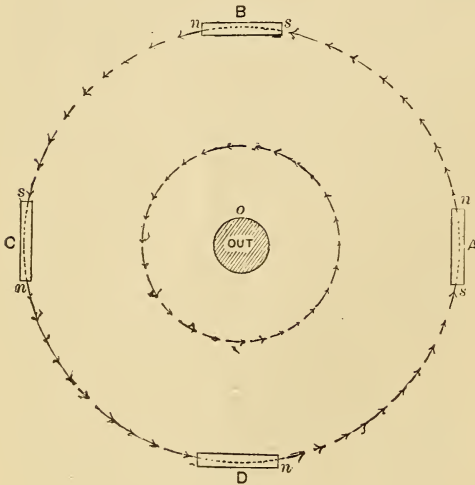

FIG. 38.
If the conductor through which an electric discharge is passing instead of being held in a horizontal position above and parallel to a magnetic needle that has come to rest under the influence of the earth's magnetism, as already shown in the first figure of this article, is supported in a vertical position, a magnetic needle when brought into its neighborhood will be deflected in different directions according to the side of the conductor near which it is brought. If, for example, the north pole of the needle is deflected in a certain direction on any side of the conductor, it will be deflected in the opposite direction on the opposite side of the conductor; and the same is true of any other position. If, for example, four different magnetic needles are placed as shown in Fig. 38 (Houston & Kennelly's "Magnetism"), 90° apart, or diametrically opposite one another, they would, under the influence of electric discharge, assume positions as represented; the north pole would
only, as represented in Fig. 38, a greater number of magnets are employed, as by using finely divided iron filings, the flux passing through the particles of iron filings will magnetize them and cause them to come to rest in the directions in
tion or repulsion will occur, and the needle will only come to rest when the flux produced by the field passes through the magnet in the same direction as that in which its own flux passes. In other words, the flux of the field must enter the magnet at its south pole and pass out of it at its north pole. If, therefore, in Fig. 38 (B) represents the direction of the flux produced by a discharge passing vertically upwards through the conductor (O), the four magnets (A), (B), (C) and (D), placed on different sides of the conductor, must come to rest in the positions shown, since in these positions only will the flux of the conductor be able to pass in at their south poles and out at their north poles.